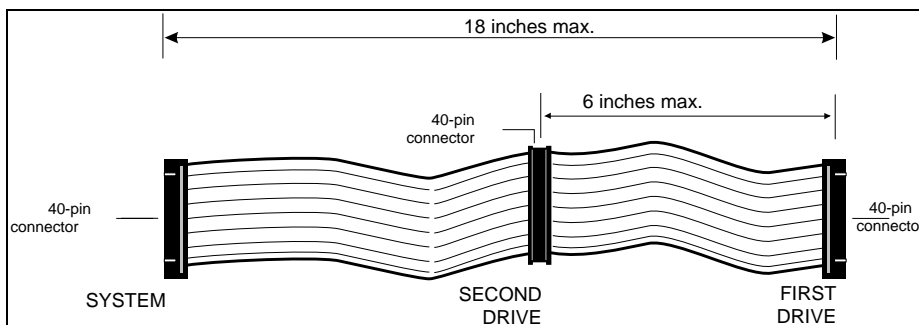

Figure 5-4. IDE Cable Connectors
Caution: You may damage the Caviar drive if the interface cable is not connected properly. To prevent incorrect connection, use a cable that has keyed connectors at both the drive and host ends. Refer to Figure 5-4 which shows pin 20 as the key. Pin 20 has been removed from the J2 connector. The female connector on the interface cable should have a plug in position 20 to prevent incorrect connection. Make sure that pin 1 on the cable is connected to pin 1 on the connectors.
1. Attach the end of the 40-pin interface cable to the 40-pin J2 connector on the back of the Caviar hard drive as shown in Figure 5-4 and 5-5. For dual installations, connect the two drives together by using a three- connector interface cable. Match the orientation of pin socket 1 on the 40-pin IDE cable to pin 1 on the connector.
4. Attach the computer's power supply cable to the 4-pin power connector J3 on the back of the Caviar drive (see Figure 5-4 and 5-5). The 4-pin connector is keyed to ensure proper insertion.